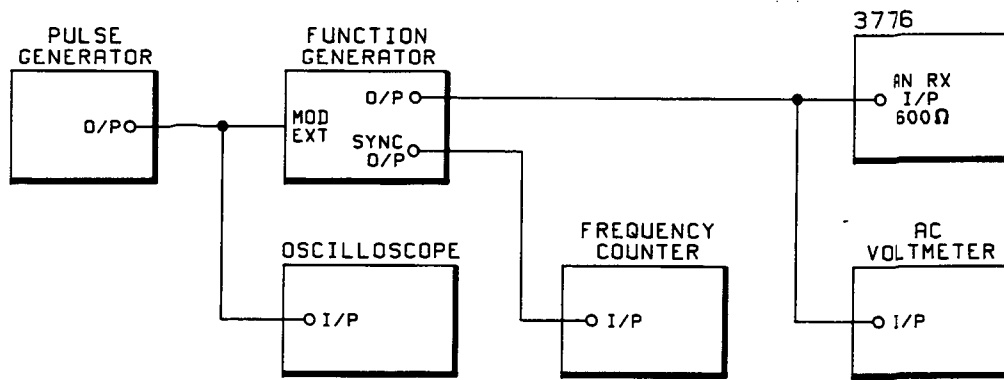

Figure 4-46 Amplitude to Phase Conversion Test Set-up
59. Connect the equipment as shown in Figure 4-46. 60. Set the Pulse Generator to EXT-MAN mode (ie, the level displayed on the oscilloscope should be 0V ac). Ensure that the DC offset control is switched off.